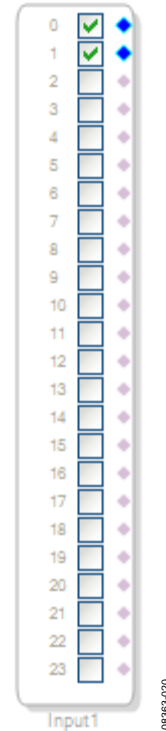

Figure 20. Input Cell
3. Click and drag the **Input** cell into the project space, as shown in Figure 20.